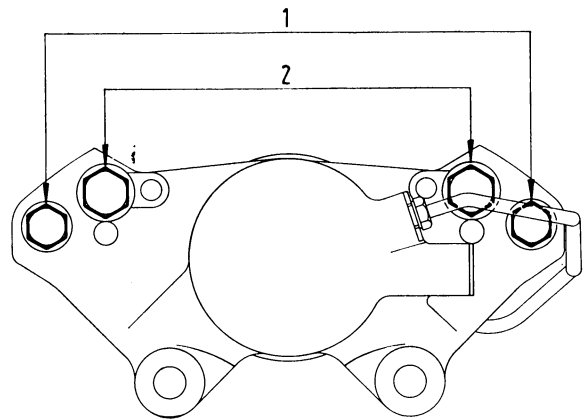
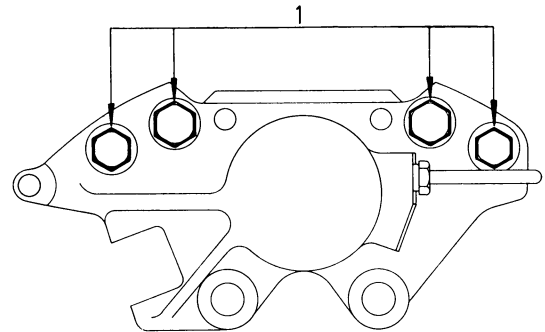

Fig. 173. - Tightening torques of front caliper halves.
Fig. 174. - Tightening torques of rear caliper halves (1600 S Cabriolet).
- **Front calipers (fig. 173):**
- Inner pair of bolts (2) { 1500 28.2 to 29.7 ft.lbs (3.9 to 4.1 kgm)
- Outer pair of bolts (1)
- **Rear calipers (1600 S, fig. 174):**